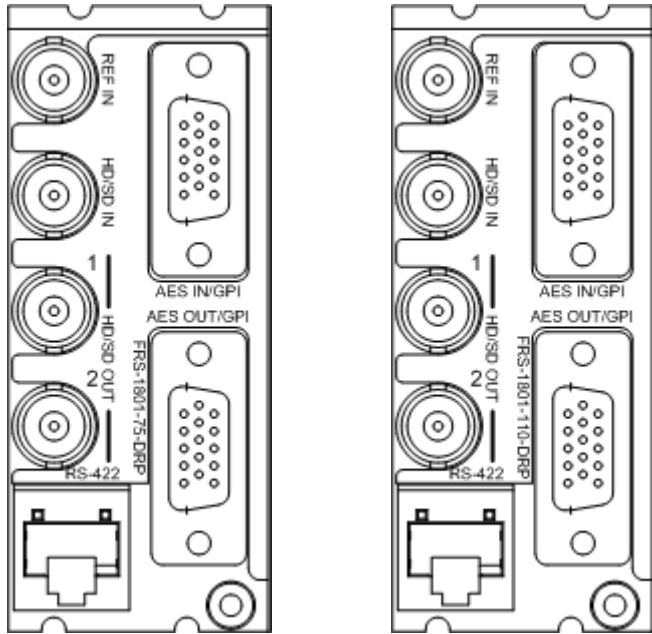

Figure 2.2 FRS-1801 Rear Panels
- FRS-1801-110-DRP or FRS-1801-75-DRP Double Rear Panel. See figure 2.2